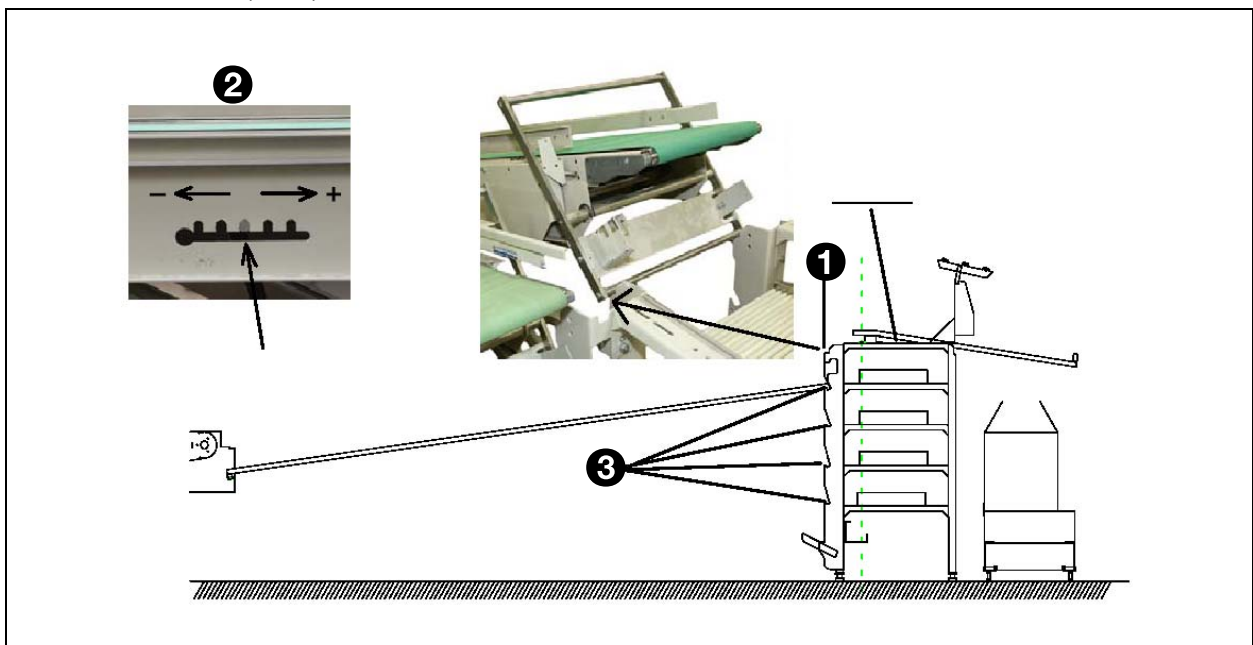

Fig. 210 - Installation of the contiflow
7. Fit the locking arm into the upper notch (1) see fig. 210. **!** This is a job for 2 men.
8. Mount the gas strut in the indicated notch. See photo (2) in fig. 210. Make sure that the buffer riser belt always contacts the lowest notch (3).
9. Allow the buffer riser belt to drop into the notch (3). **!** This is a job for 2 men.